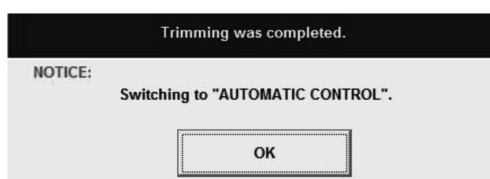

Fig.46
- ⑤ If you clicked on "NO" and want to work with the 20mA trim, the procedure remains the same as the 4mA trim: make sure that the milliammeter connected reads 20mA.
- ⑥ Similar to the 4mA trim, you are prompted whether to make readjustment or not. Click on "YES" to repeat the process, or "NO" to exit the 20mA trim.
- ⑦ Clicking on "NO" button brings an end to the analog output trim. A message box "Trimming was completed" as shown in Fig. 46 appears. Click on "OK" button.